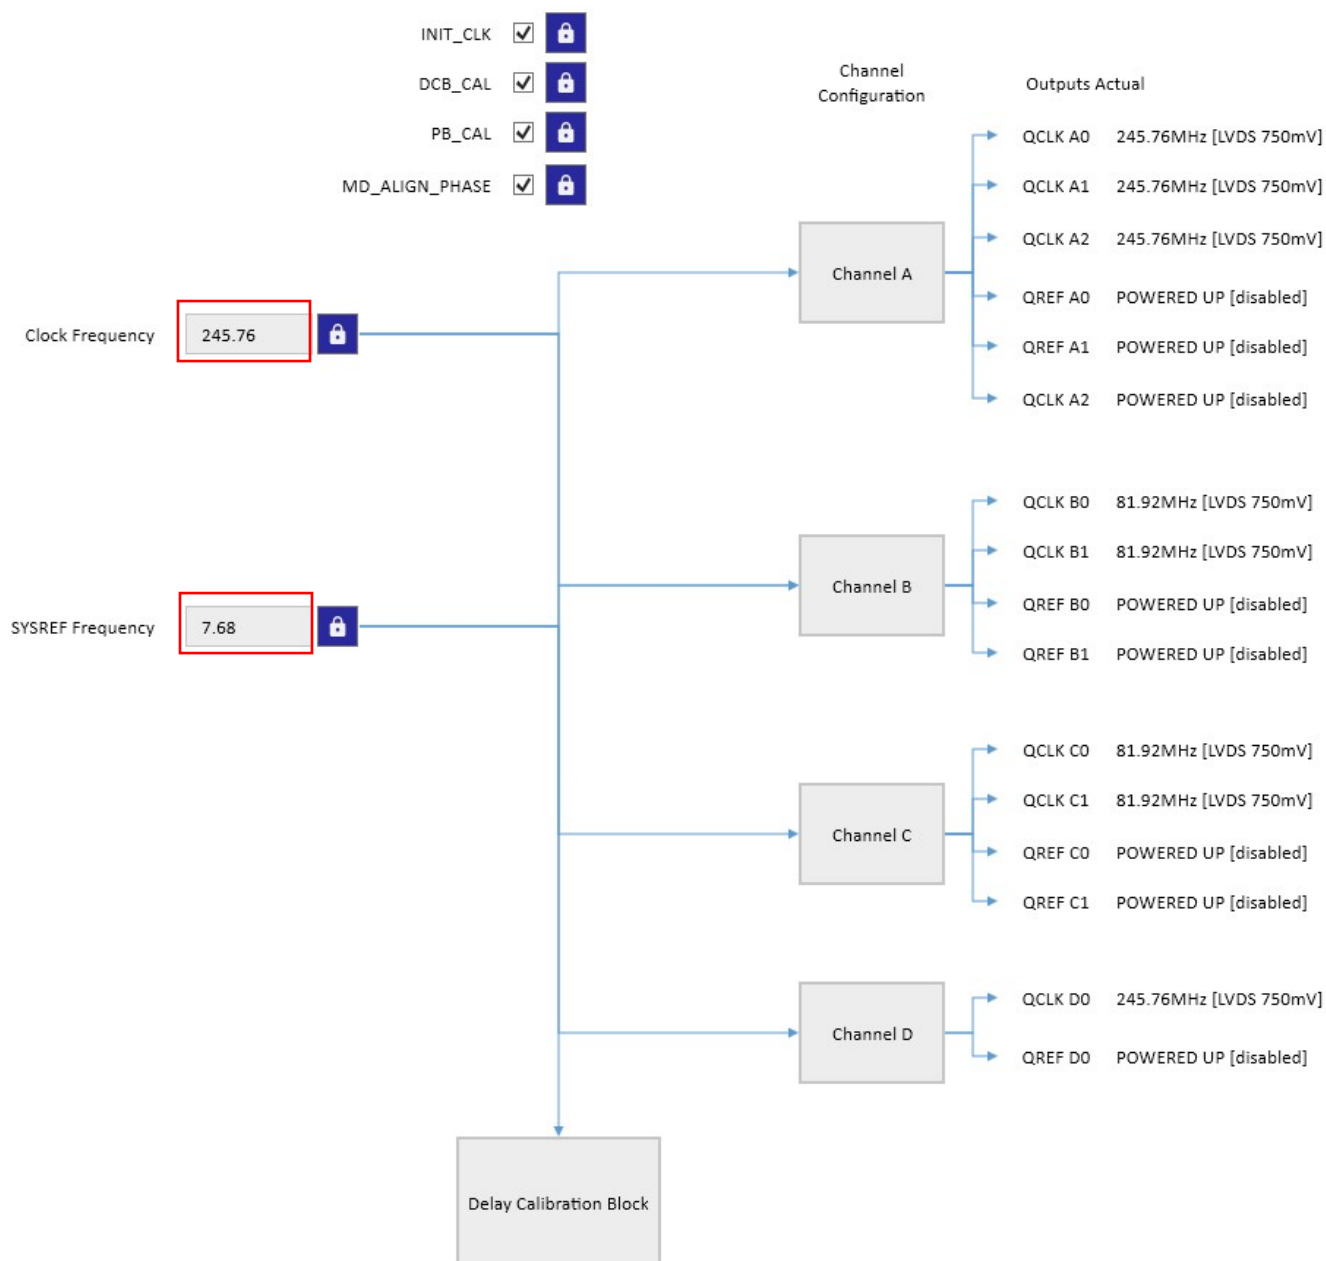

Figure 16. CLK/nCLK (Clock) and REF/nREF (Sysref) Input Frequency Setting
7. Enter the Clock and Sysref Input frequencies as shown in Figure 16.